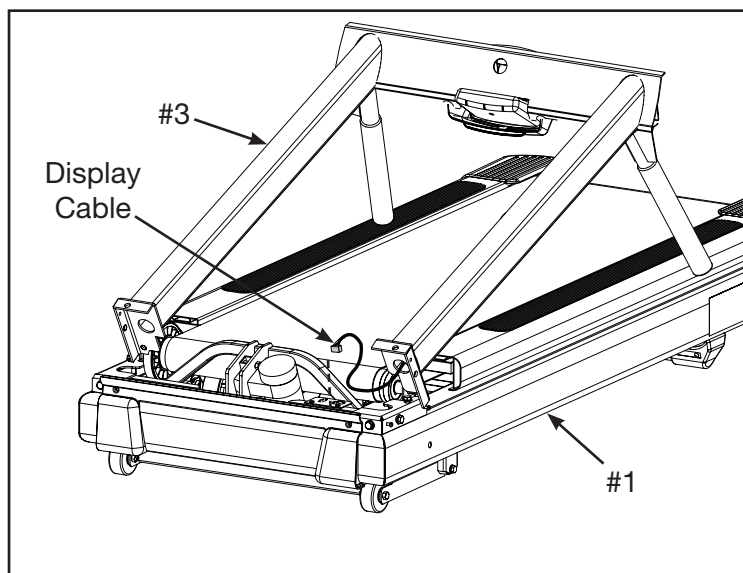

Figure 3
- B. Carefully place the upright assembly (#3) on the base assembly (#1) as shown. See Figure 3.
- C. Plug the display cable, located at the bottom of the upright assembly (#3) into the base assembly (#1). See Figure 3.